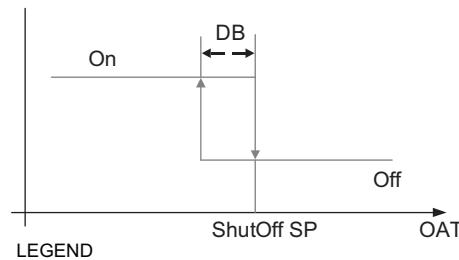

Fig. 49 — Hysteresis Settings
Hysteresis setting (DB) defaults to 2°F (−17°C). See Fig. 49.